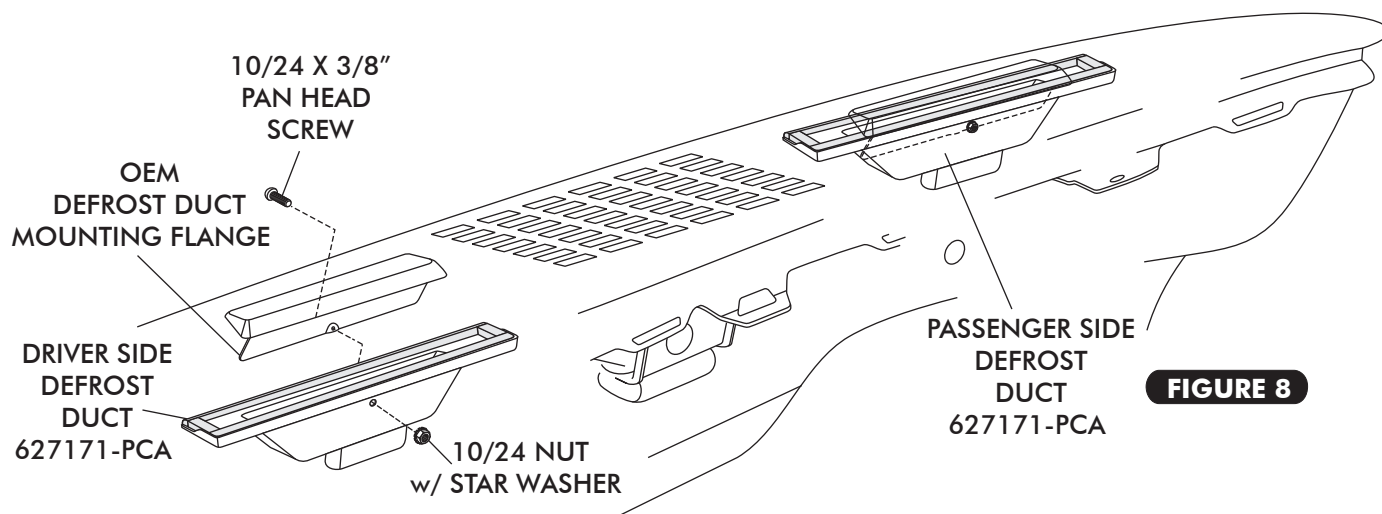

FIGURE 8
- INSTALL THE DEFROST DUCTS UNDER THE DASH ON THE OEM DEFROST DUCT MOUNTING FLANGE AND SECURE USING 10/24 x 3/8" PAN HEAD SCREW AND 10/24 NUT w/ STAR WASHER AS SHOWN IN FIGURE 8, BELOW.